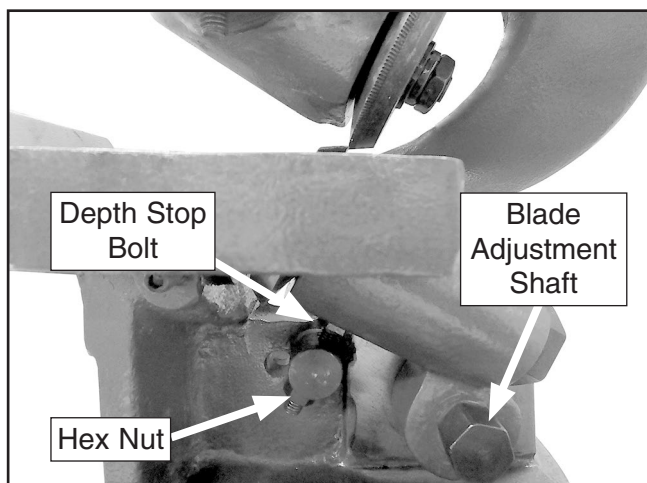

Figure 3. Location of blade adjustment shaft and depth stop.
2. Using a 22mm open-end wrench, rotate blade adjustment shaft (**Figure 3**) to set desired blade gap.
3. Using a 13mm open-end wrench, rotate depth stop bolt (see **Figure 3**) until blades overlap approximately $\frac{1}{8}$ ".
4. Tighten hex nut shown in **Figure 3** to lock depth stop bolt.